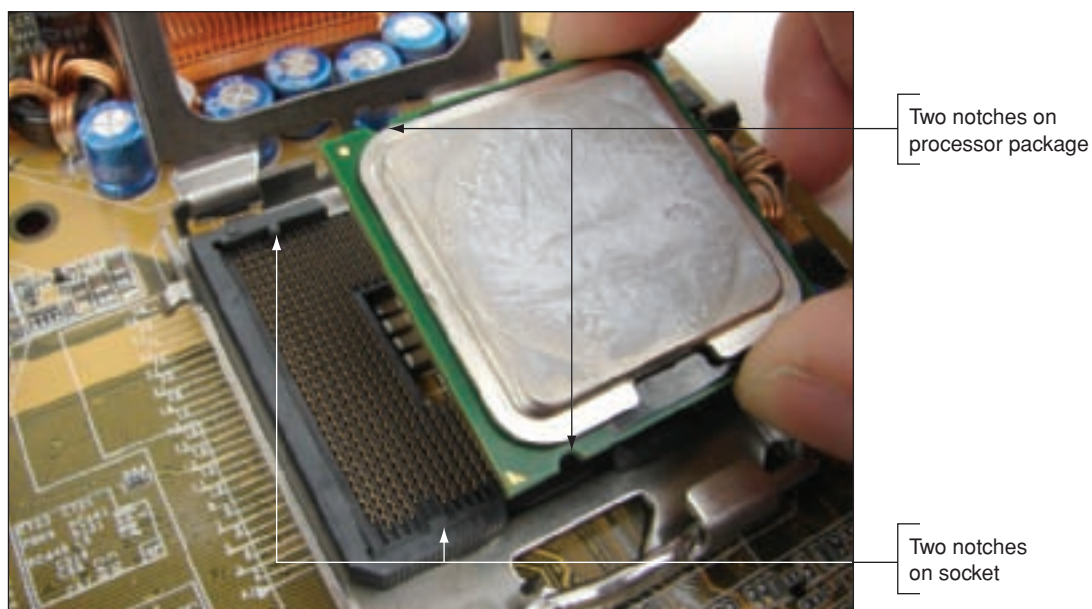

Figure 6-36 Place the processor in the socket orienting the notches on two sides
3. Orient the processor so that the notches on the two edges of the processor line up with the two notches on the socket (see Figure 6-36). Gently place the processor in the socket. Socket 775 doesn't have those delicate pins that Socket 1366 has, but you still need to be careful to not touch the top of the socket or the bottom of the processor as you work.